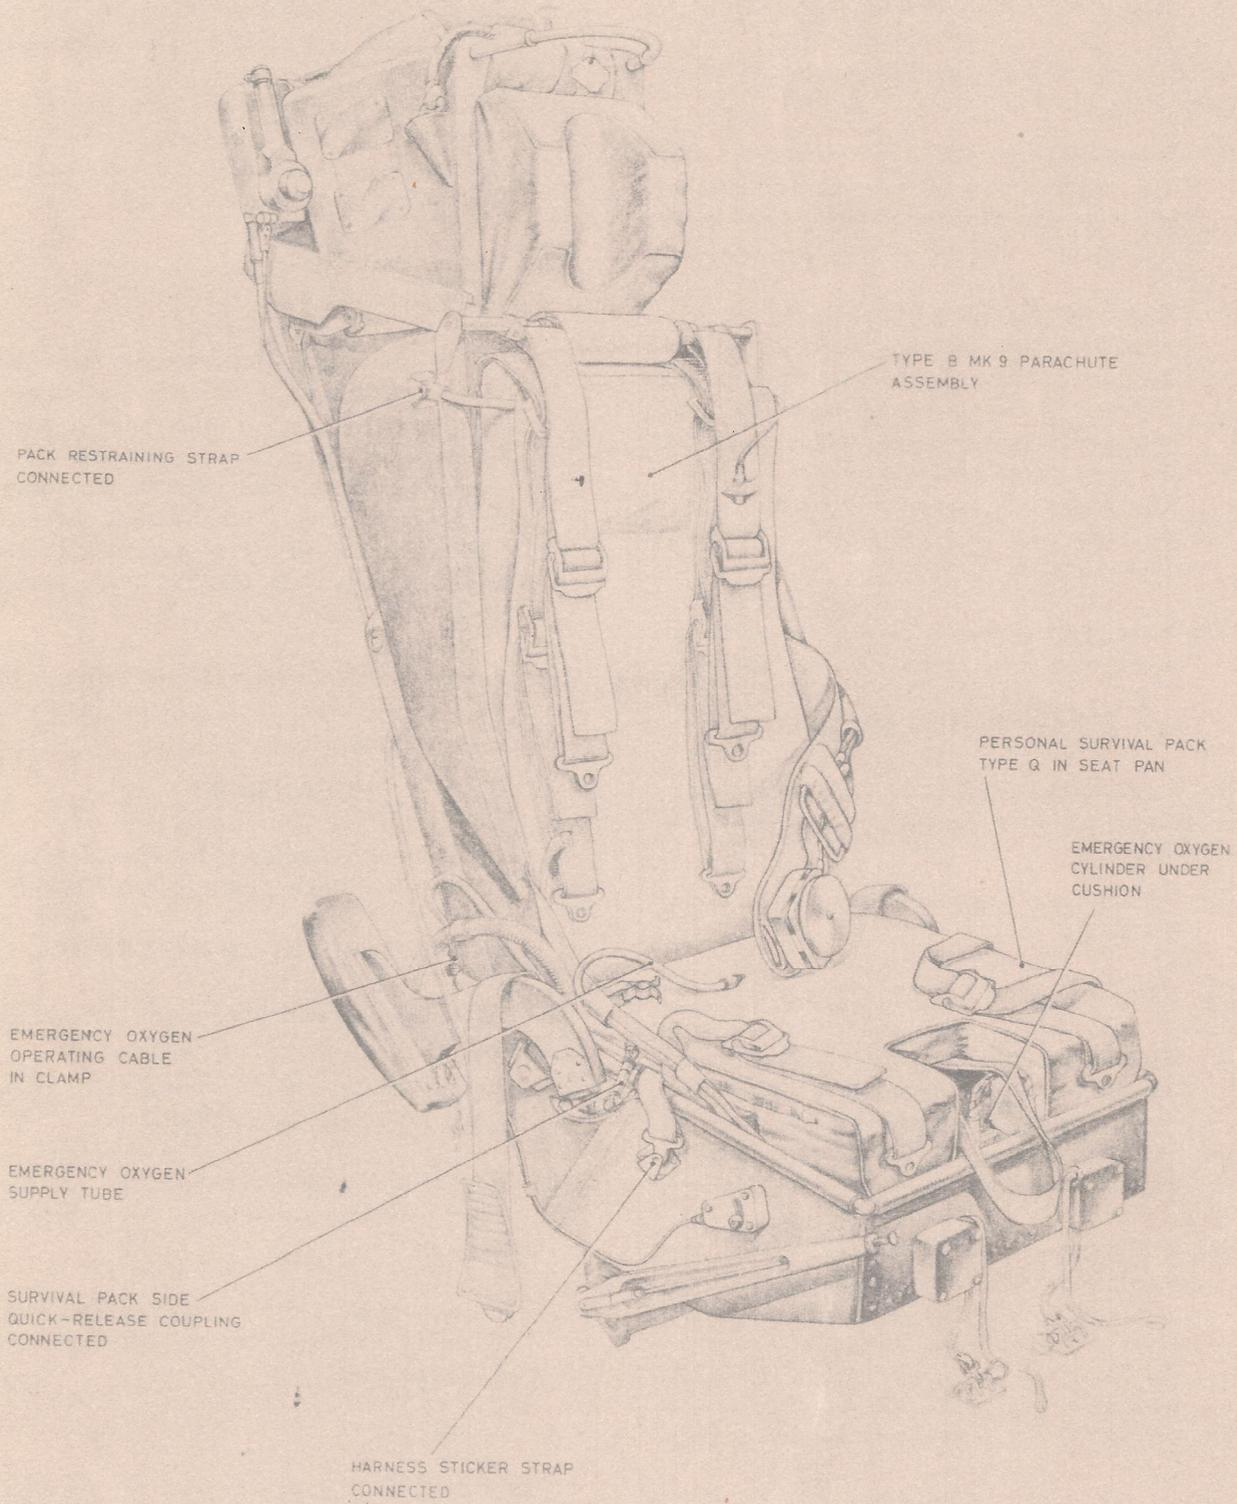

Fig. 1 The ejection seat equipped (1)
13. The following procedure is to be used when equipping the seat: refer to fig. 1 and 2 as necessary: -